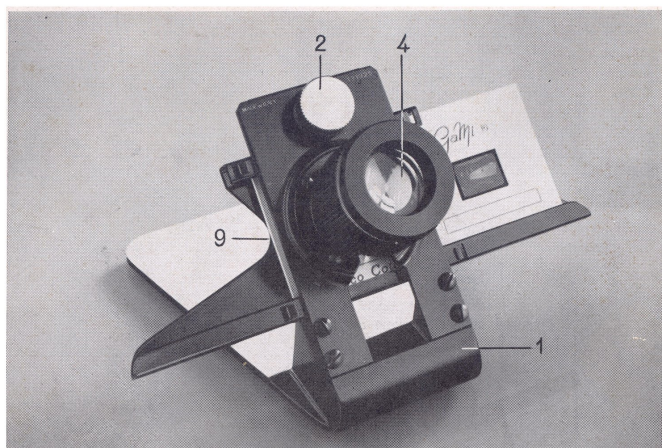
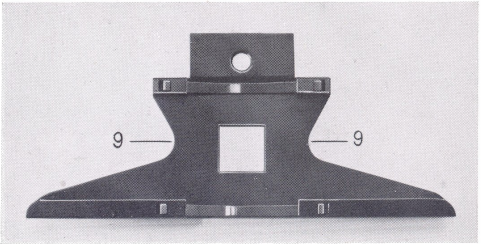

fig. 4
fig. 3
The instrument is set up as in fig. 4, that is, assembling slide holder fig. 3 to the base (1) by means of thumbscrew (2). The slide holder permits observation and prompt substitution of regular slide mounts in the 2"x2" slides.